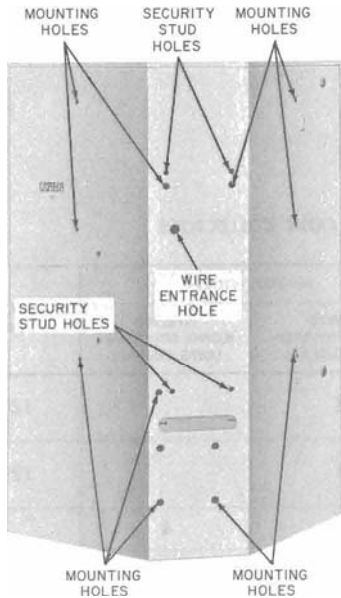

Fig. 12—Location of Mounting, Security Stud, and Wire Entrance Holes
**3.05** Refer to Fig. 12 for mounting screw and security stud locations in the coin collector.
**3.07** Feed inside wire through wire entrance hole (Fig. 12) and connect to terminals T, R, and GRD on TB1. Dress wire away from coin collector door.